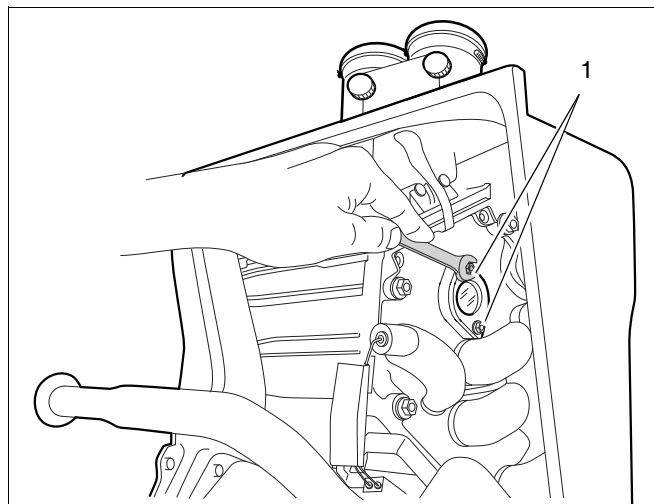

fig. 81 Loosening the screws of the sight glass
- Loosen both screws of the sight glass (see fig. 81, pos. 1).